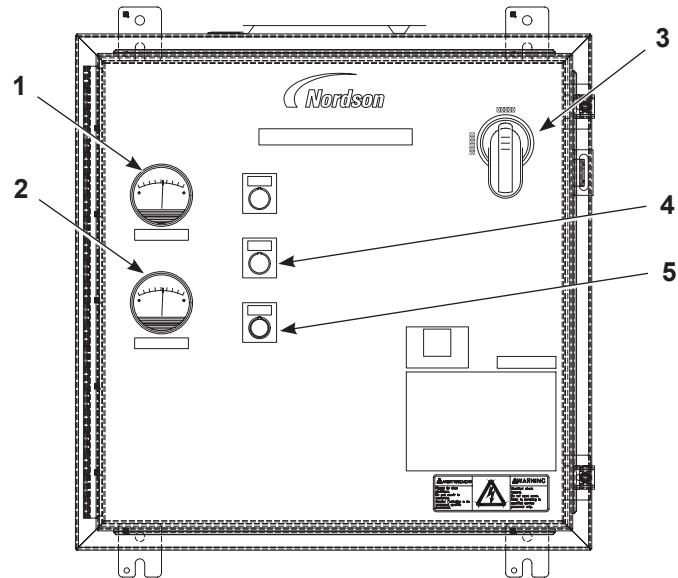
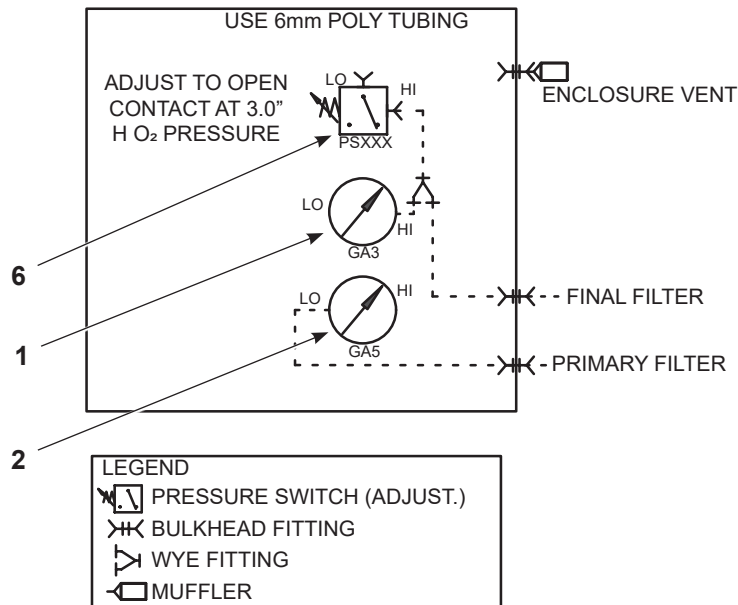

Figure 20 Control Panel
Figure 21 Pneumatic Layout
See Figure 20, Figure 21, and Table 7.
1. See Figure 20. Blow the powder off the canopy walls.
4. Shut off the exhaust fan (5).
5. Turn off the control panel disconnect switch (3).